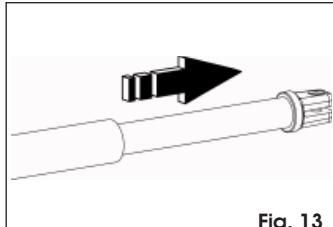

Fig. 13
- Remove the pipe completely until it stops (Fig.13).